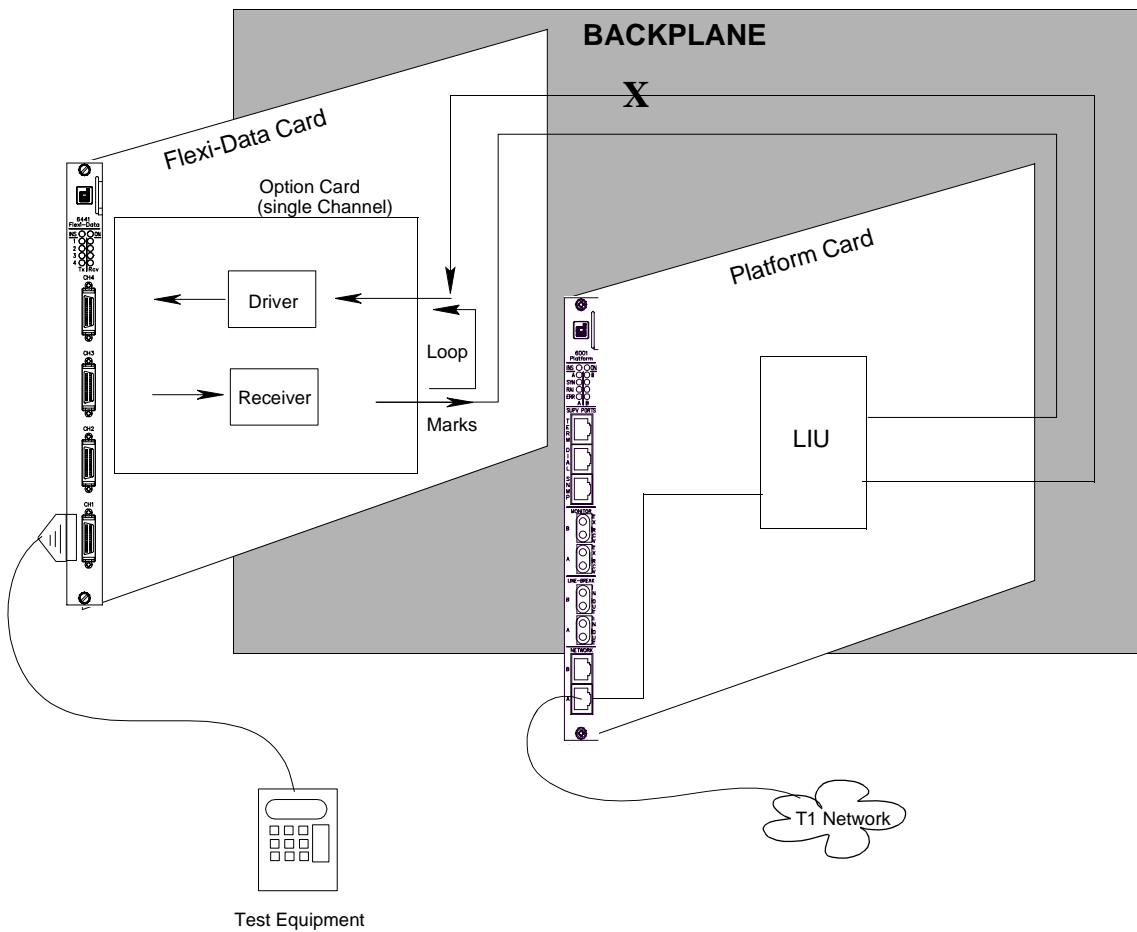
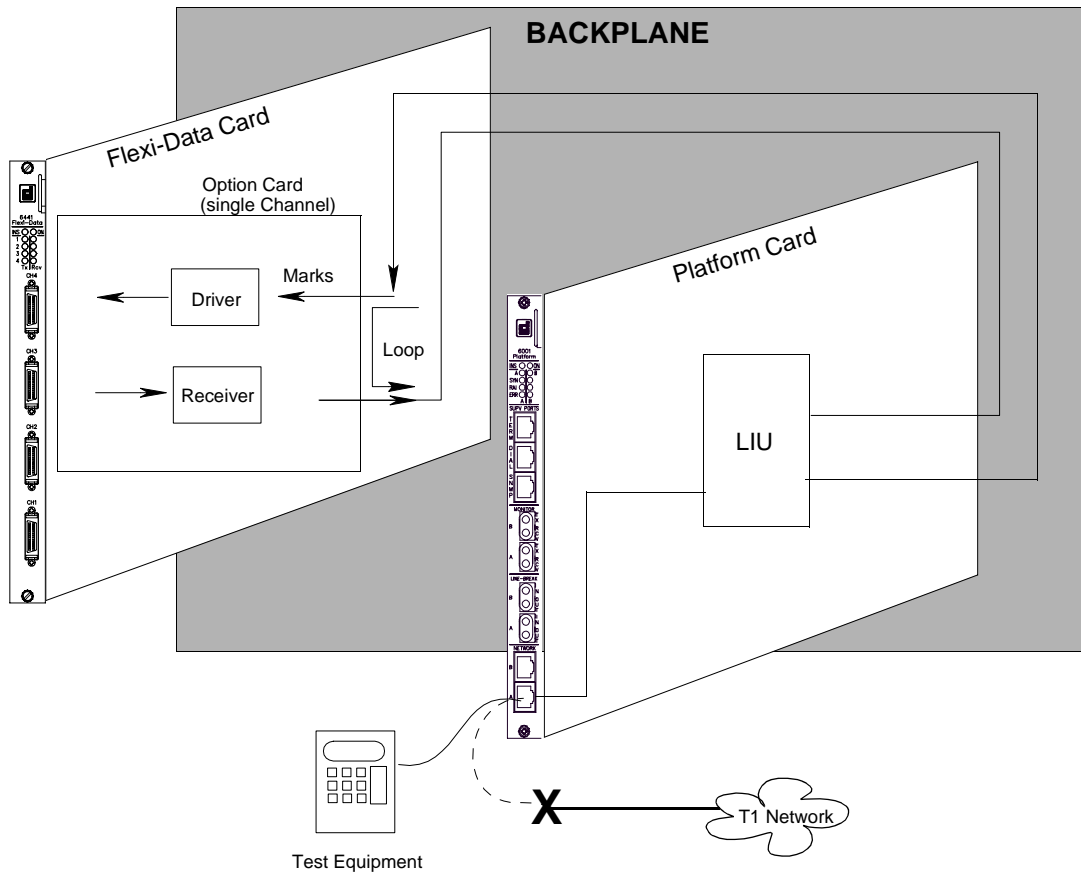

Figure 3 Manager-initiated ToDTE Loopback (Any of 4 Channels)
Figure 4 Loopback Towards Network (Any of 4 Channels)
Figure 3 through *Figure 4* illustrates loopback tests that you may perform from the Manager or the Network.
1. Connect external test equipment (to generate and detect the test pattern) at the 26-pin front panel connector (for the desired channel). See *Figure 3*.
1. Connect external test equipment (to generate and detect the test pattern) at the Platform Card NETWORK jack. See Figure 4.